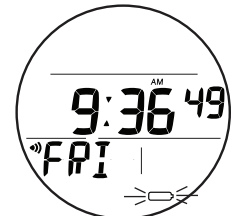

Fig. 3 - WATCH MAIN (low battery alarm)
- Low Battery icon (shell only with no inner bar) flashes for 5 seconds and operation reverts to Watch Time (Fig. 3) until the Battery is changed or voltage cannot sustain operation (< 2.35 volts) and the unit turns off.